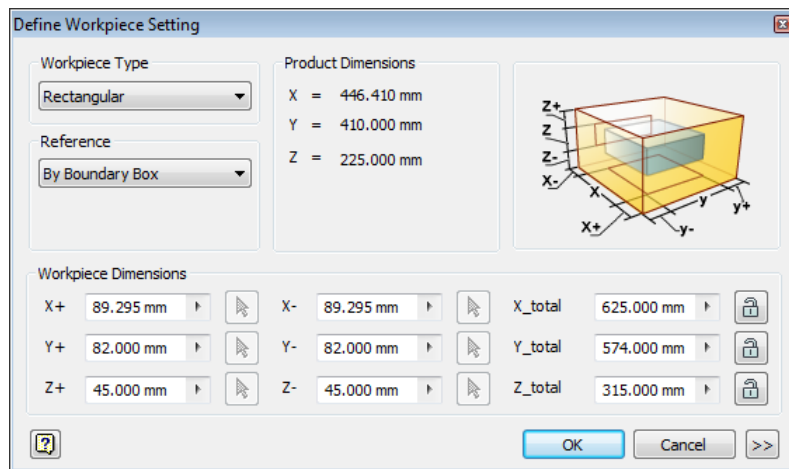

*Figure 19-70 The Summary dialog box*
4. After the analysis is complete, the **Summary** dialog box is displayed, refer to Figure 19-70. Choose the **OK** button from the dialog box; the suggested process settings are applied.